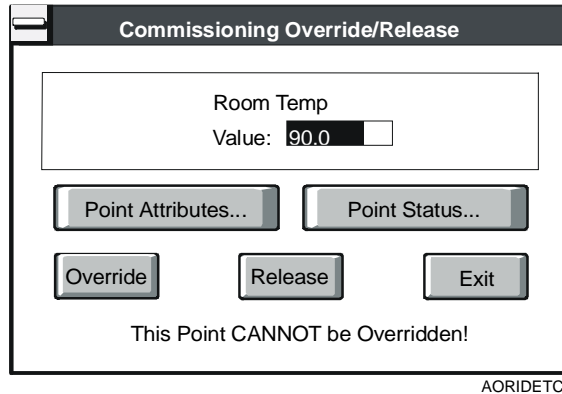

Figure 7-10: TC-9100 AI Override/Release Dialog Box
1. Double-click on the point you want to change. The Commissioning Override/Release dialog box appears (Figure 7-10).